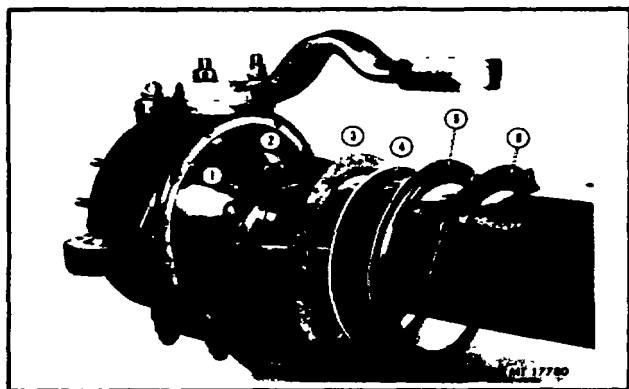

Fig. 21. Trunnion Housing Seals and Retainers
5. Install gasket, flange, steering ball felt, seal with spring, split retainer ring and retaining ring halves on rear of trunnion housing See Fig 21 for correct order of component installation